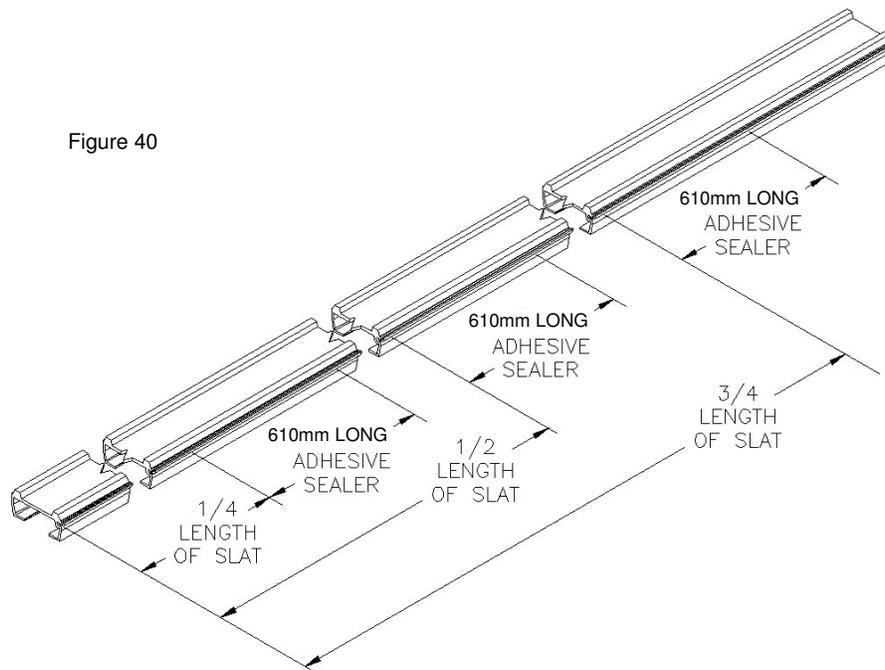

Figure 40
- f. Apply three additional beads of adhesive. The additional beads of adhesive should be 610mm long. The additional beads should be located at 1/4 of the slat/plank length, 1/2 of the slat length, and 3/4 of the slat length. The additional beads may be applied after the seal is installed (Figure 40).